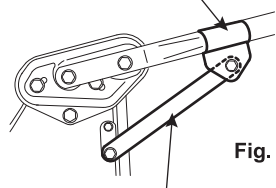

Fig. 4
3. Remove the housing bolts and loosely fix the handle assist bar temporarily. (See Fig. 4)